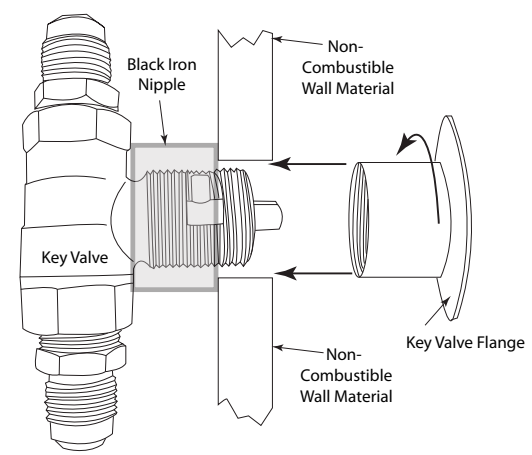

Fig. 7 Typical Installation
3. The primary gas shut-off (not supplied) will require a ⅝” male flared fitting to enable connection of the stainless steel flex gas line supplied with the fire pit (see Fig. 7 page 10).